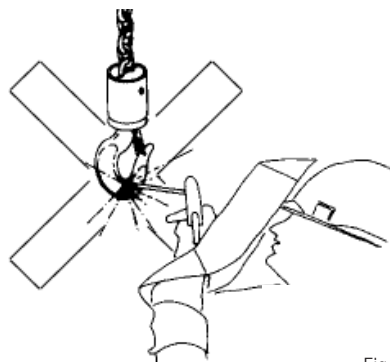

Fig. 4
- **Do not** use the load chain as a ground connection during welding (Fig. 4).